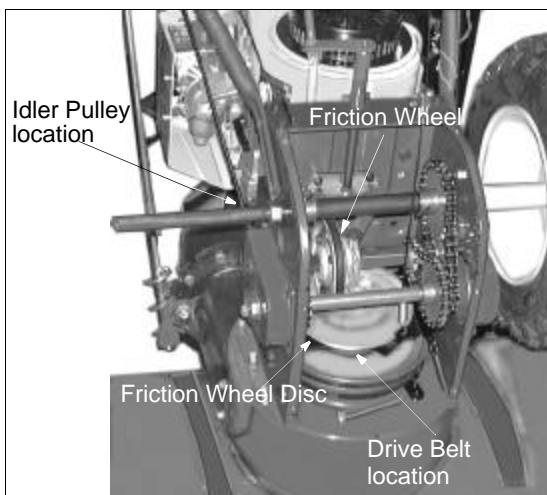

Figure 22
3. With the traction drive clutch engaged, the friction wheel must contact the drive plate (shown in Figure 22).
6. Working from the underside of the frame, slip belt between the friction wheel and the friction wheel disc. See Figure 22. You may have to twist the belt flat in order to slide it through the clearance between the friction wheel and the friction wheel disc. Remove the belt completely.